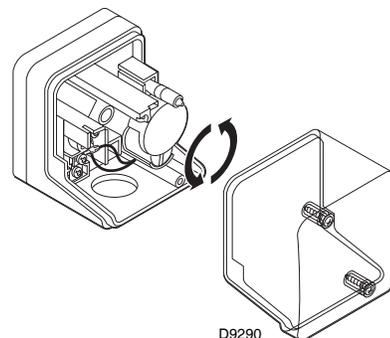

Fig. 44
- Adjust the minimum gas pressure (Fig. 44) switch to the start of the scale.
Adjust the minimum gas pressure switch (Fig. 44) after having performed all the other burner adjustments with the pressure switch set at the start of the scale.